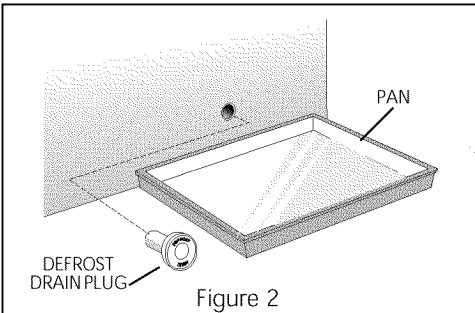
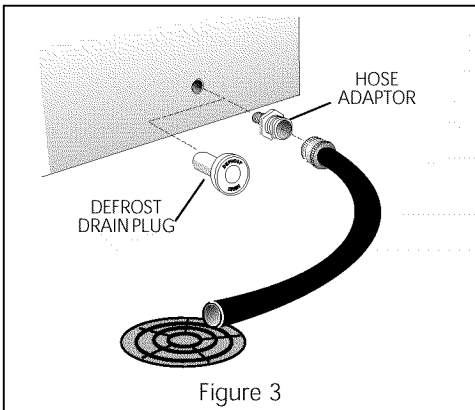
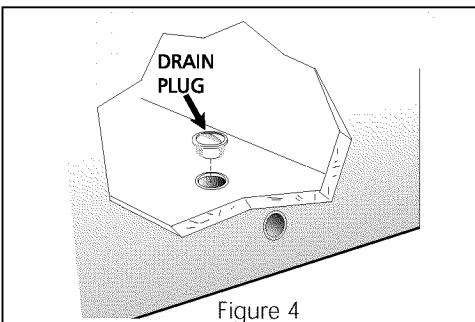

Figure 2
Figure 3
Figure 4
- **On chest models** with a defrost drain, place a shallow pan or the Divider/Drain Pan (some models) beneath the drain outlet (Figure 2). A  $\frac{1}{2}$  inch garden hose adaptor can be used to drain the freezer directly into a floor drain (Figure 3). If your model is not equipped with an adaptor, one can be purchased at most hardware stores. Pull out the drain plug inside the freezer, and pull off the outside defrost drain plug (Figure 4). Defrost water will drain out. Check pan occasionally so water does not overflow. Replace the drain plugs when defrosting is completed.